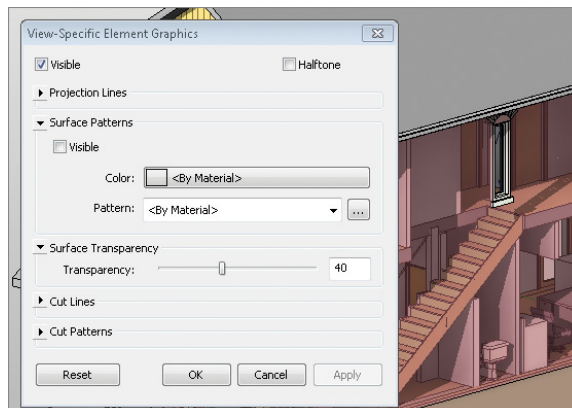

FIGURE 9.12 Surface Transparency and Pattern
4. Select the wall again, right-click, and choose **Override Graphics In View > By Element**. Expand the **Surface Pattern** control, and deselect the **Visible** parameter (Figure 9.12).